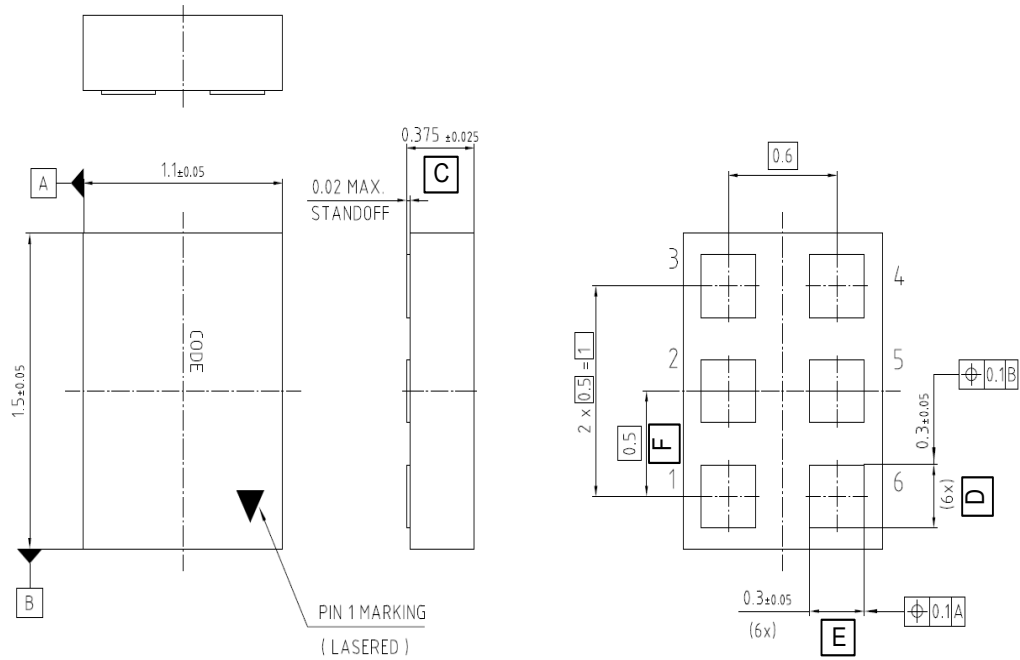

Figure 4-2 PG-TSNP-6-9 Package
**Figure 4-2** shows the PG-TSNP-6-9 package outline for OPTIGA™ Trust.